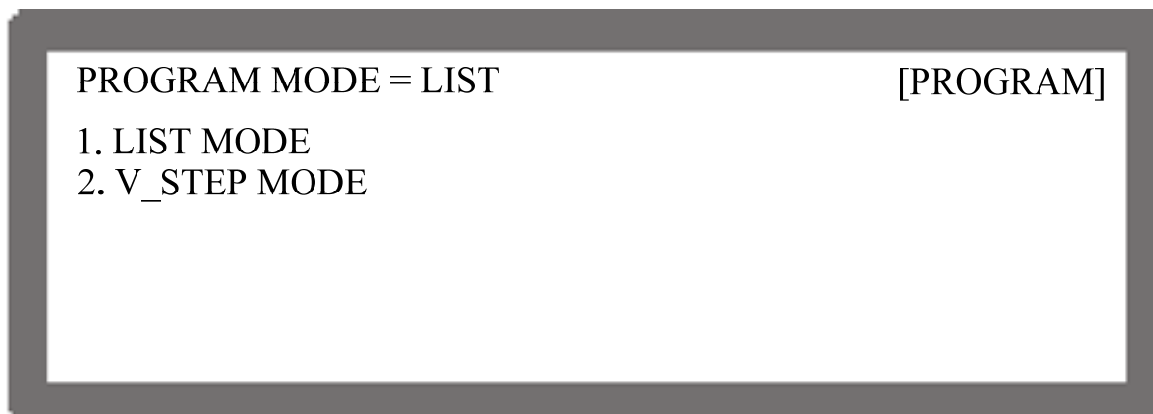

Figure 4-1
2. It displays PROGRAM options as Figure 4-1 shows.
5. Press “” to return to Figure 4-1.
4. Press “” to return to Figure 4-1.